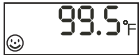

Fig. 3
6. If the temperature measurement is below 100.4° F, the beep indicating the reading is complete will be a single, short beep. A happy face will be displayed next to the reading, Fig. 3.